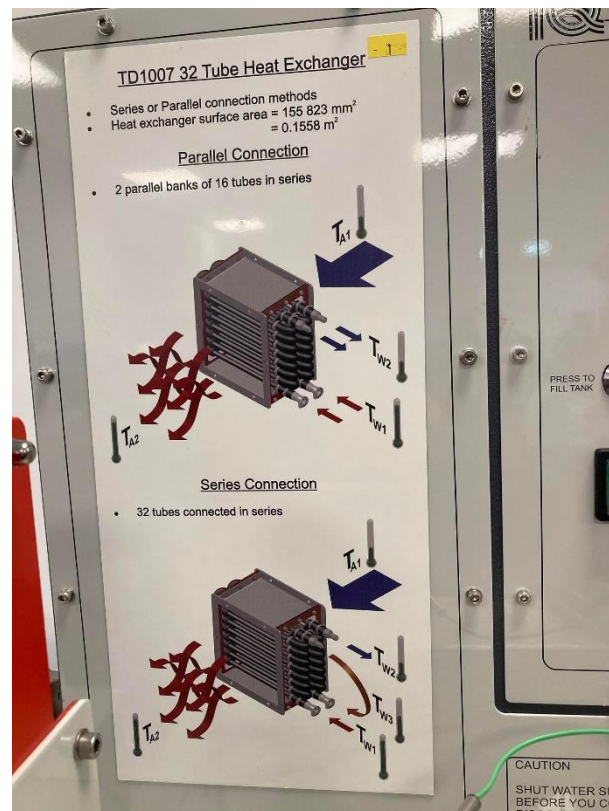

Figure 1. Parallel and Series connections of the heat exchanger represented visually.
A) Firstly, prepare the heat exchanger (for the purpose of this experiment the TD1007 Tube Heat Exchanger was used) to ensure the experiment findings are accurate. The tank must be set up for parallel flow as shown in Figure 1&2 so ensure the tubes are set up correctly. The water will enter through the bottom of the tank (T_{w1}) and exit through the top (T_{w2})